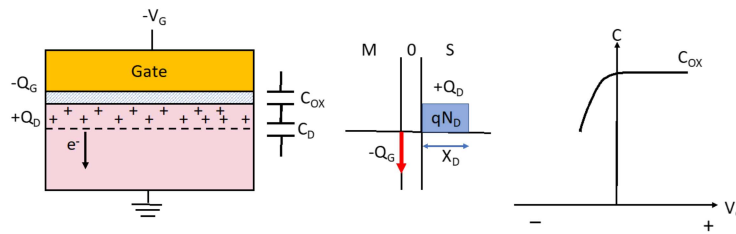

Figure 14: PMOS - Depletion
10. Consider an n-type Silicon substrate with a positive voltage  $+V_G$  on the gate as shown in fig.14.